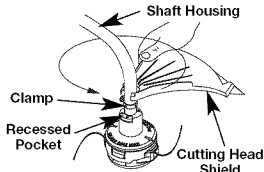

Fig. 1
- Place the cutting attachment shield onto the shaft housing above the clamp assembly (Fig. 1).